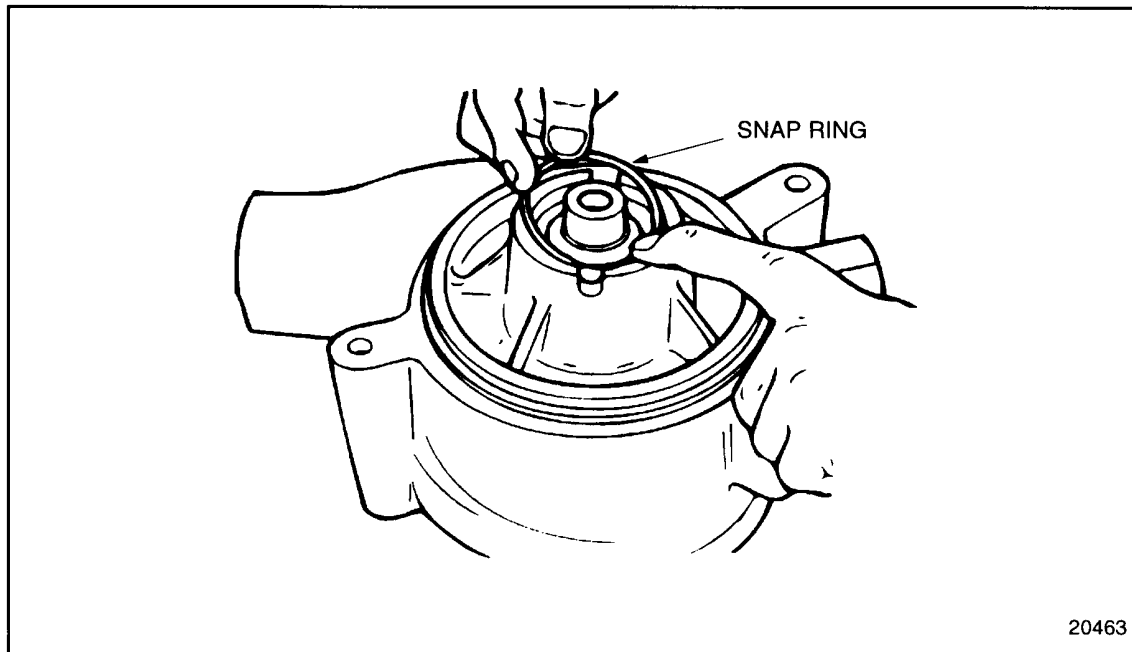

Figure 4-9 Snap Ring Removal
5. Remove the snap ring from the water pump housing. See Figure 4-9.